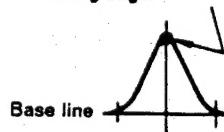

Fig. 8
- Feed in a weak signal to TP102 from the genescope. Adjust T101 for maximum gain and the waveform indicated in Fig. 8. If the center of the waveform cannot be lined up on the marker, adjust the right/left balance.